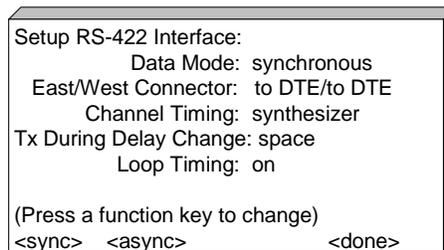

Figure 3.30 Setup RS-422 Interface Screen
4. Select **RS-422** and press **ENTER** to display the **SETUP RS-422 INTERFACE** screen (see Figure 3.30).